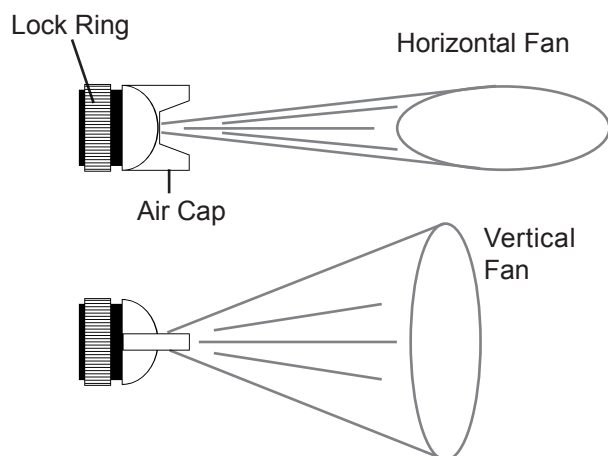

Figure 1
1. To change the direction of the fan from horizontal to vertical, loosen the Lock Ring and turn the Air Cap 90° - See Figure 1.